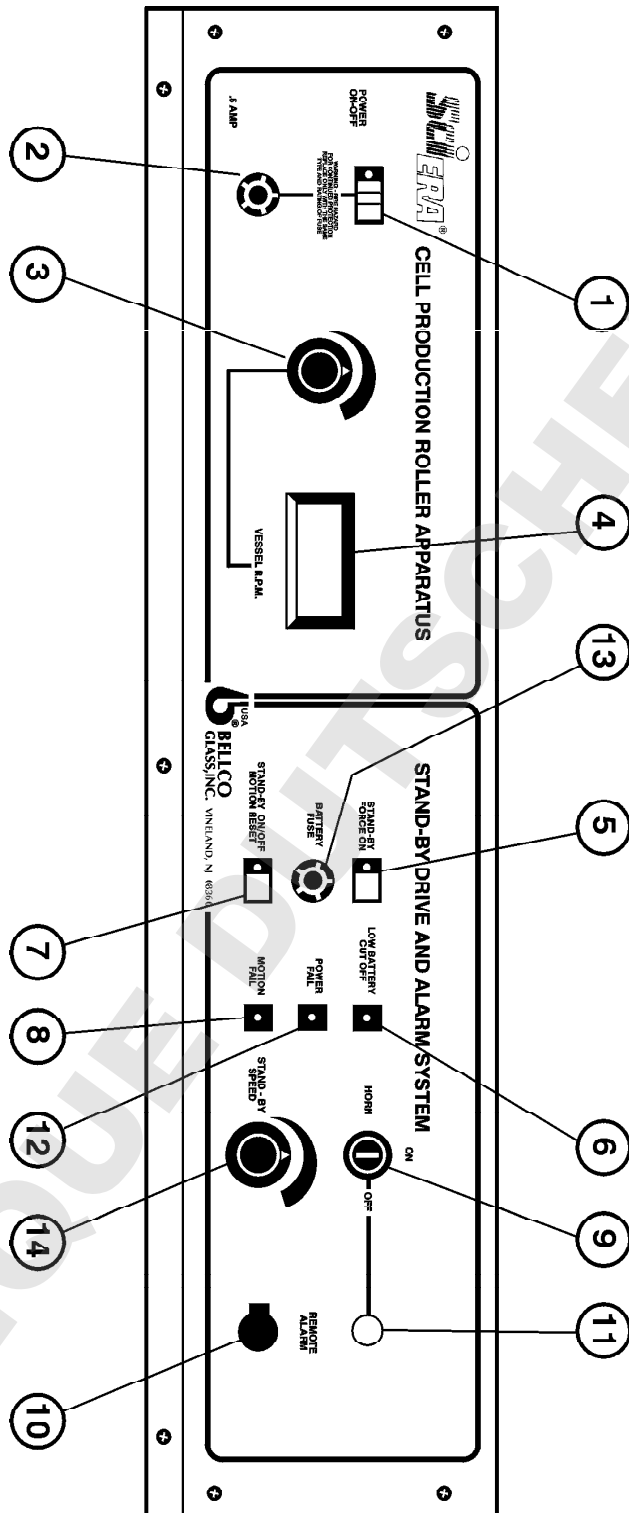

**FIGURE 3:
- c. **Stalled Motor.** Check speed control board fuse. (ref. figure 3) Disconnect from the line power source prior to servicing. The fuse can be visually inspected or checked for continuity with an ohm meter. If necessary replace with part # A432-12 fuse for 100/115 volt and A432-16 for 230 volt models. Need for fuse replacement indicates other problems which should be resolved prior using the unit. Again check for obstructions which may cause motor stalling or replace motor brushes. Check that all bearings rotate easily and lubricate or replace if necessary.
## **REPLACEMENT OF SPEED CONTROL CIRCUIT BOARD** (ref. Figure 3)